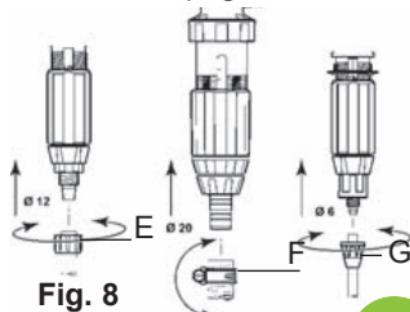

Fig. 8
- Unscrew the nut (Fig. 8-E) at the bottom of the injection assembly and put it onto the tube.
- Unscrew the nut (Fig. 8-G) at the bottom of the injection assembly and put it onto the tube.
- Loosen the clamp (Fig. 8-F) holding the suction hose by means of a screwdriver.